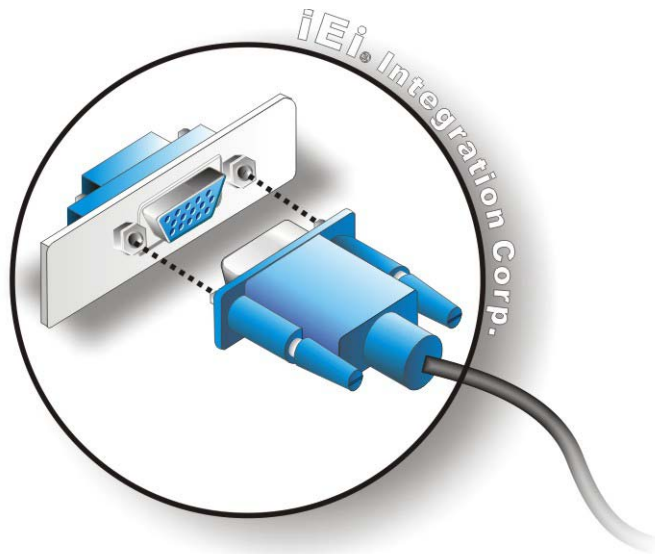

Figure 4-12: VGA Connector
- Step 7:** **Insert the VGA connector** Once the connectors are properly aligned with the insert the male connector from the VGA screen into the female connector on the NANO-SE-i1. See **Figure 4-12**.